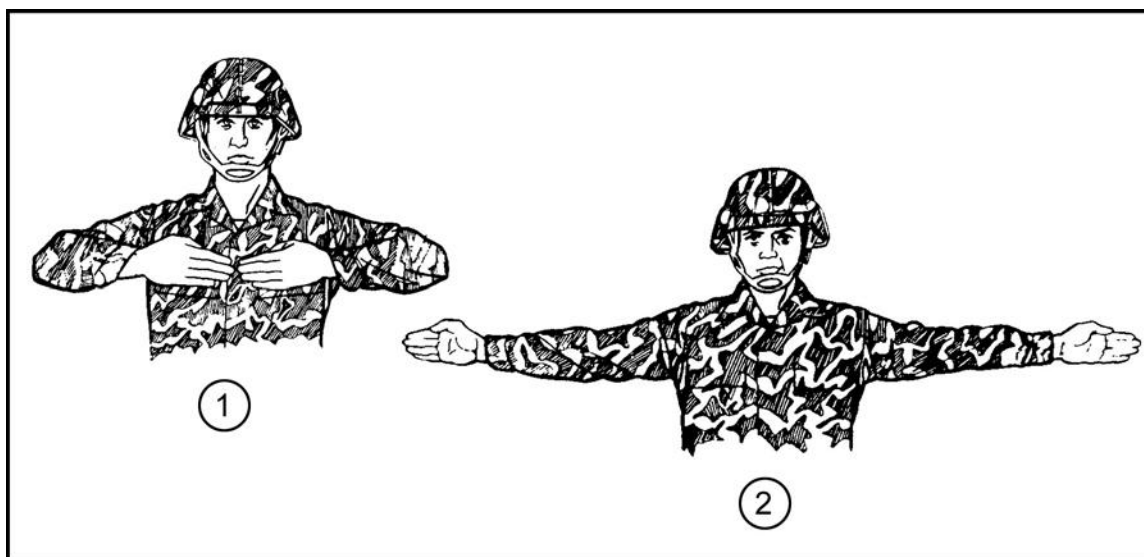

Figure 5-6. CHECK EQUIPMENT.
(1) The JM starts this arm-and-hand signal with the fingertips centered on his chest, palms facing the chest, and fingers and thumb of each hand extended and joined; or with his arms extended to the sides at shoulder level, fingers and thumbs extended and joined, and palms facing toward the parachutist.
(2) He gives the oral command, extends his arms to the sides at shoulder level, and then returns them to the chest; or bends his arms at the elbows, bringing the fingertips to the center of the chest, and then returns to the extended position (Figure 5-6).
(3) He repeats the arm-and-hand signal at least three times. (The JM must check his own equipment.)